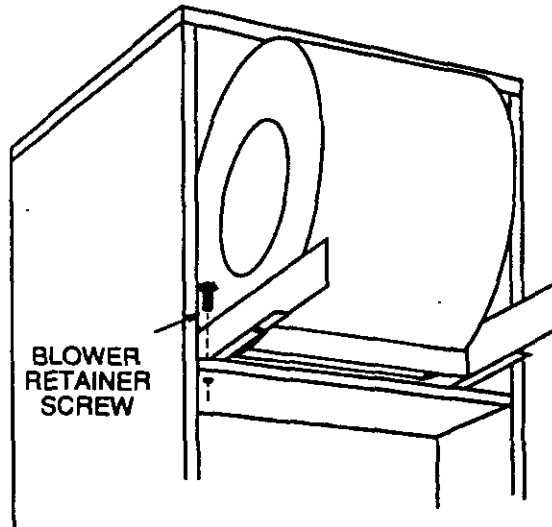

Figure 13
3. Remove the blower retaining screw, located at the front of the left blower leg (See Figure 13).